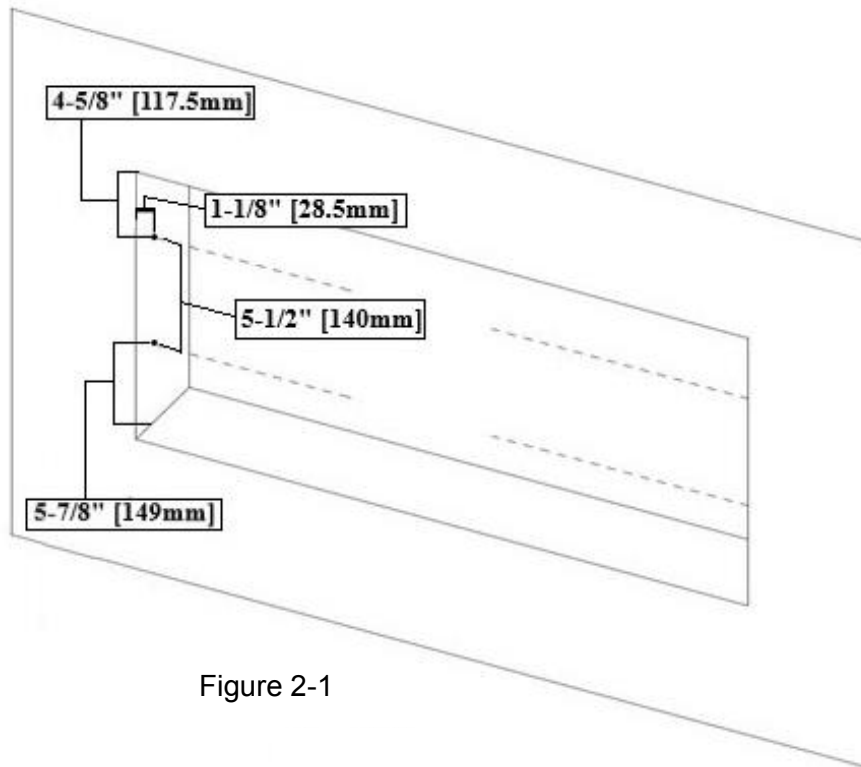

Figure 2-1
- B. Mark location for the screws according to the dimensions as below. (**Figure 2-1**)